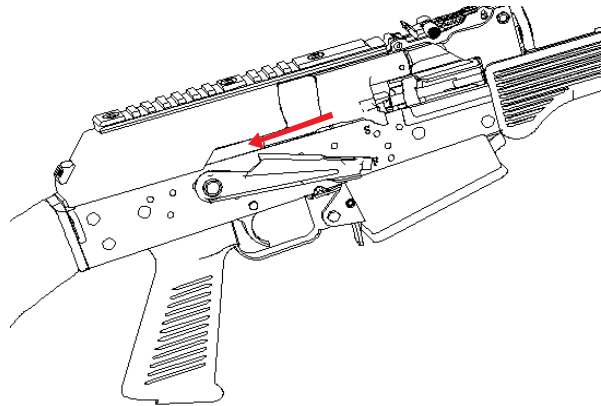

Fig. 8 Pulling Bolt to Check If There Is Any Cartridge in Chamber
4.1.1.2. Pull the bolt backward and check if there is any cartridge inside the chamber (see Fig. 8).